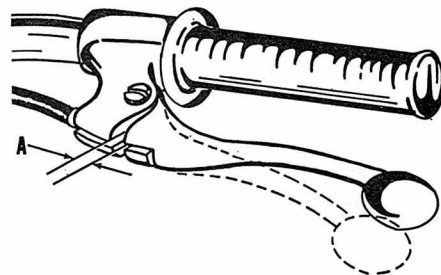
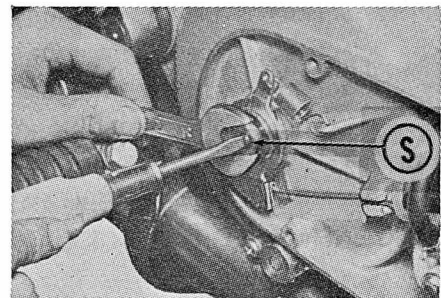

Fig. Y8-9—The clutch hand lever should have  $\frac{1}{8}$ - $\frac{1}{4}$ -inch free play at (A).
Fig. Y8-10—The clutch adjusting screw (S) is located under the cover on right side of engine.
**CLUTCH CONTROLS.** The clutch hand lever should have  $\frac{1}{8}$ – $\frac{1}{4}$  inch free play at (A—Fig. Y8-9). To adjust, remove the cover from right side of engine and loosen lock nut. Turn the adjusting screw (S—Fig. Y8-10) in until slight resistance is felt, then back screw out  $\frac{1}{4}$  turn and tighten lock nut. Turn the cable guide at hand lever end of cable until the hand lever free play (A—Fig. Y8-9) is correct.